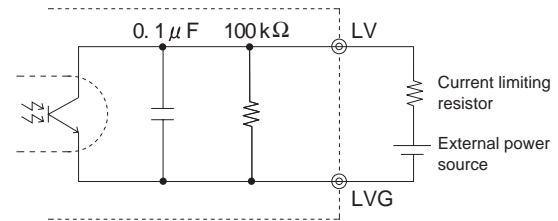

Fig.5.9 LV internal circuit
- The differences from the standard model are shown in Fig. 5.9.
The operating conditions of the LV alarm are shown in Table 5.12. The internal circuit of the LV alarm is shown in Fig. 5.9. The LV alarm is isolated from input, output, and FG.